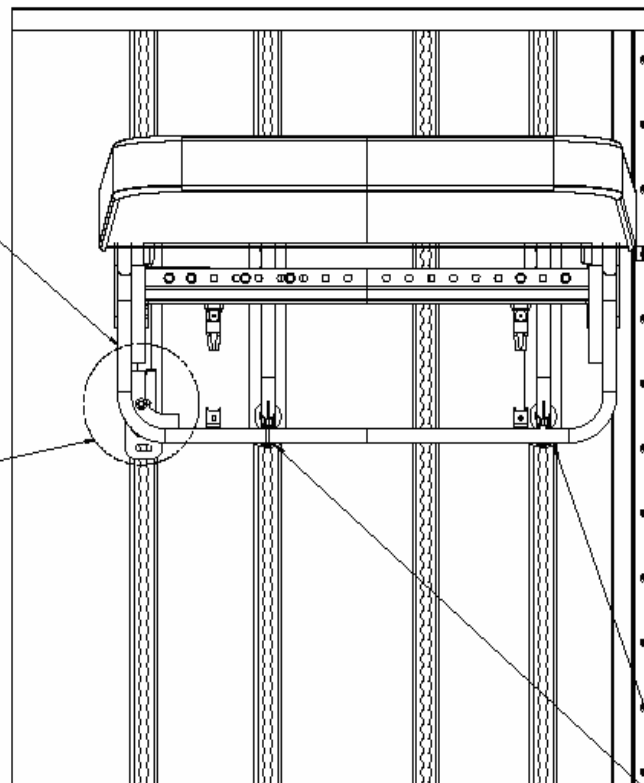

Figure 1-Top View
1. Using a pencil (or any removable marking utensil or technique) mark the location of the seat. Place a mark on the floor next to the front track mounting position of each leg. See Figure 1, Top View.
10. Install new legs provided with the kit. See Figure 1, Section B-B, and section C-C.
12. Reinstall the seat in the location marked in step 1. Use item 11 with Kinedyne or Sure-Lok track (torque to 25-30 LbF-Ft, 34.9-47.6 Nm). Use item 12 with Q-Straint track (torque to 35 LbF-Ft, 47.4 Nm). Pictures below show the difference between the Kinedyne and Q'Straint type tracks.